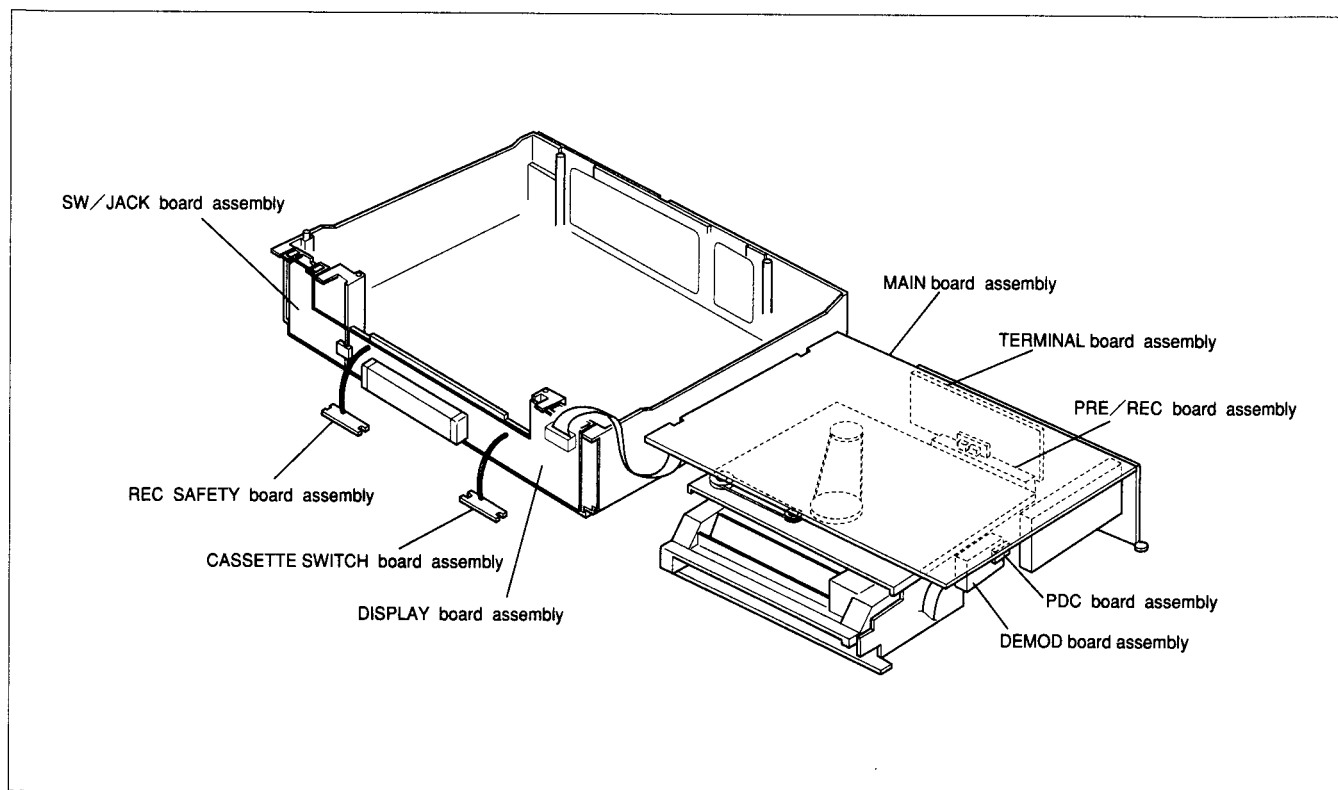

Fig. 1-5-3
- (5) Turn over the Mechanism assembly and Main board assembly then connect CN1201 and CN1204 of the DISPLAY board and SW/JACK board assembly.
- (6) Carry out checks & repairs as necessary as shown in Fig.1-5-3.